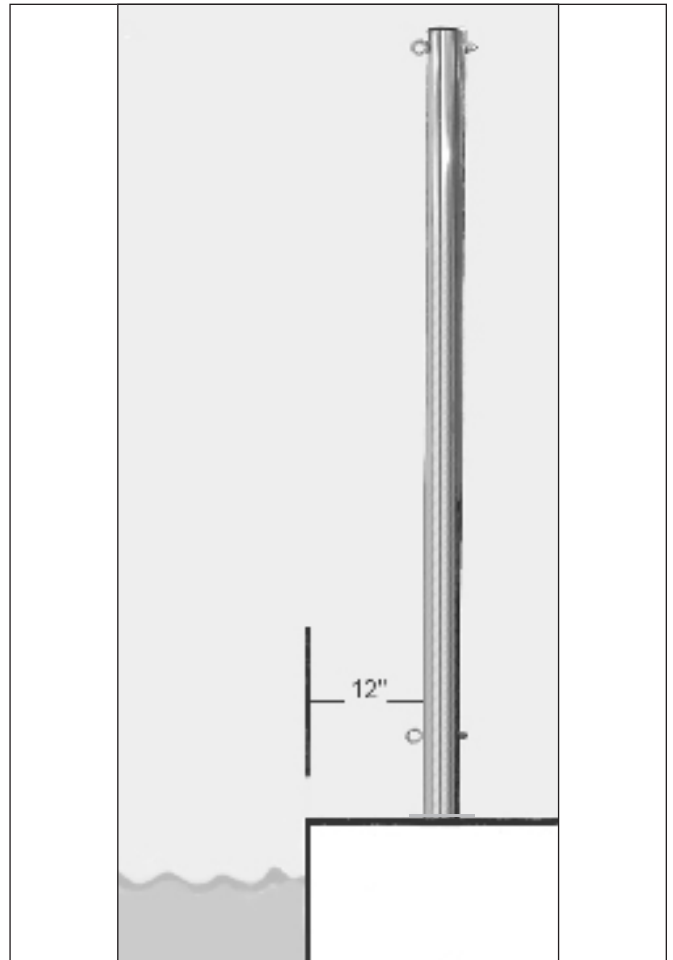
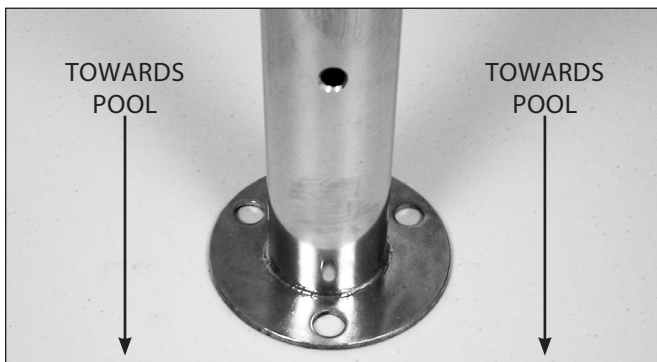

Figure 6
Figure 7
**STEP ONE:** Position the poles 12" from the edge on the pool (as shown in Fig. 6) on the shallow end of the pool. Orient the poles (as shown in Fig. 7) to ensure that the deck flange hole and pole eyebolt hole are facing the pool. Mark the three (3) flange hole locations for each pole.